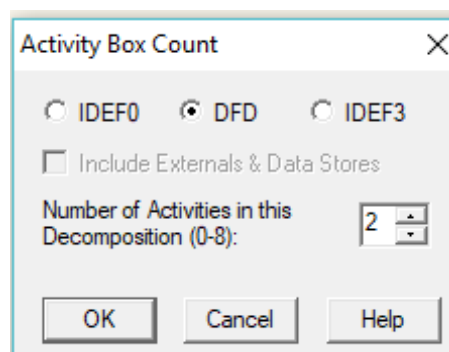

Fig. 5.7. The *Activity Box Count* dialog box
3. Select **2** in the number of decomposition activities of the **Activity Box Count** dialog box (fig. 5.7).